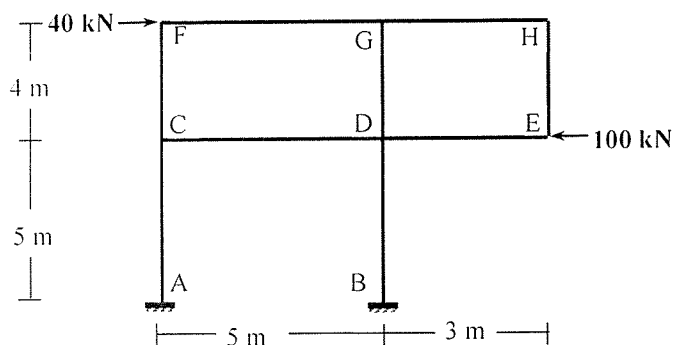

Fig.3
- Analyze the frame using the Portal Method to draw Shear force and bending moment diagrams of the two-storied frame shown in **Fig.3**. All columns have the same cross-sectional area. [13]